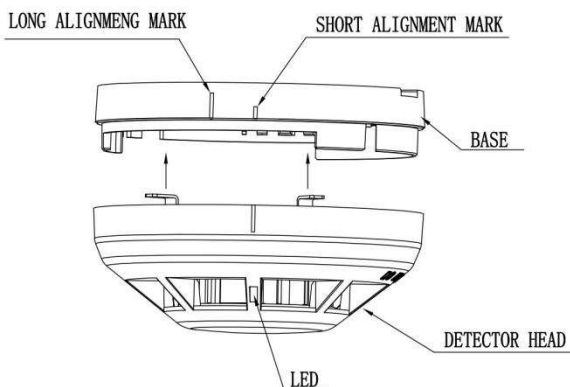

Fig. 4: Fitting the detector to the base
1. Align the components as shown in Fig. 4.